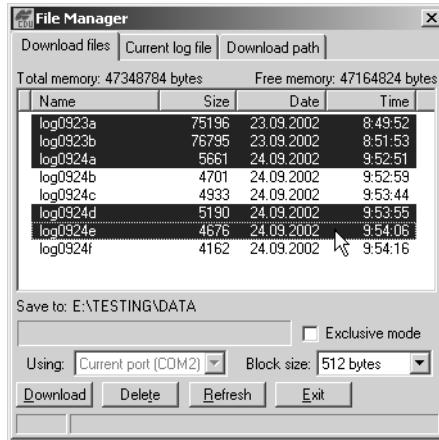

Figure 4-5. Download Files
- Select the file(s) you want to download (Figure 4-5 on page 4-11).